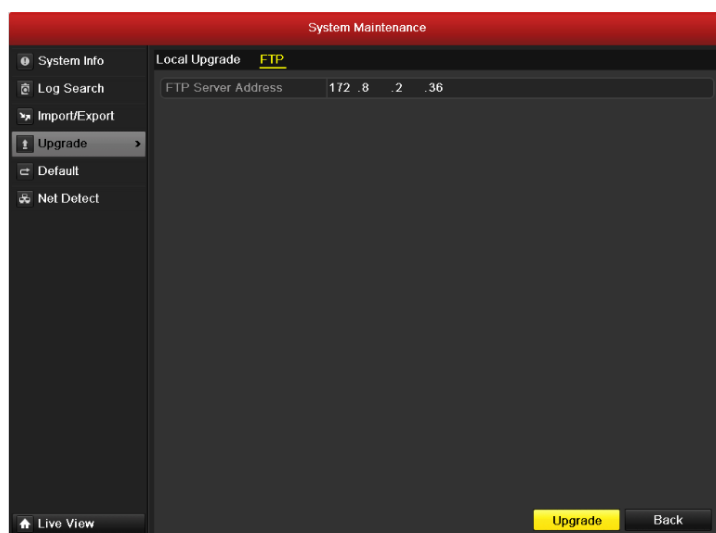

Figure 12.13 FTP Upgrade Interface
2. Click the **FTP** tab to enter the local upgrade interface, as shown in Figure 12.13.